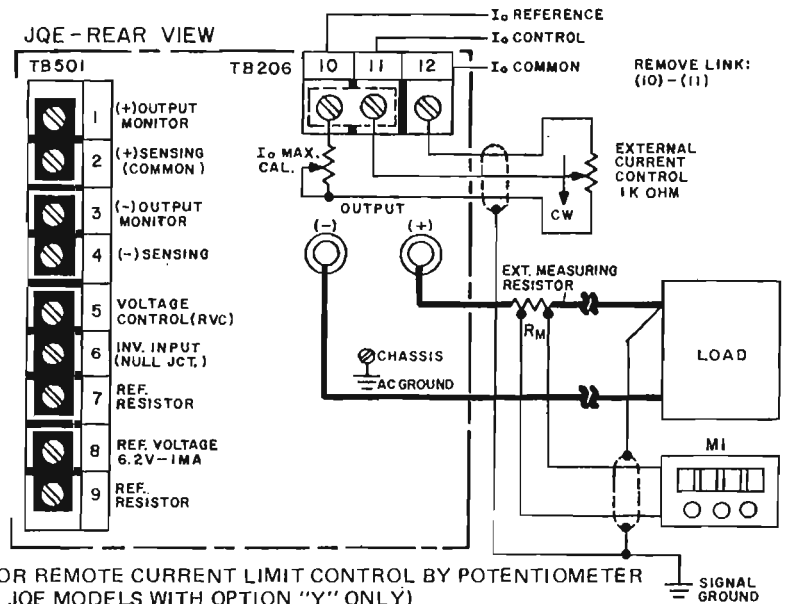

FIG. 3-16 CONNECTIONS FOR REMOTE CURRENT LIMIT CONTROL BY POTENTIOMETER (FOR JQE MODELS WITH OPTION "Y" ONLY)
**3-63 REMOTE CURRENT LIMIT CONTROL BY POTENTIOMETER.** A potentiometer, connected to the rear terminals of the JQE as shown in FIG. 3-16 will control the current limit over the full range of the JQE Power Supply. The potentiometer should be a 1000 ohm, high quality, multiturn, wirewound unit for good resolution and high stability. Sufficient reference current is provided, so that the maximum output current value can be calibrated by inserting a series trim rheostat. The zero point is adjusted by the internally provided  $I_0$  ZERO control.
- 1) Connect the potentiometer, in series with the calibrating rheostat, to the terminals of the JQE as shown in FIG. 3-16. DO NOT REMOVE THE JUMPER LINK (10)-(11) ON TB201 AT THIS TIME.
- 2) Connect shield (single ended) to the selected signal ground. Connect external ammeter, or precision voltmeter across a meter shunt (as shown in FIG. 3-16), in series with the load.
- 4) NOW, disconnect, the jumper link (10)-(11) on TB201. Turn a-c power "on." Vary the external control potentiometer between its limits, while monitoring the output current of the JQE Power Supply as shown on M1 in FIG. 3-16, or by means of a suitable ammeter in series with the load.
- 1) Connect an accurate ammeter, or a measuring resistor ( $R_M$  in FIG. 3-16) and a digital voltmeter in series with the load. NOTE:  $R_M$  is selected according to the available meter. A linear readout can be achieved by selecting  $R_M$  to drop 0.1 volt at the maximum output current, for example. (Use 4-terminal meter shunt for  $R_M$ .)
- 2) Turn a-c power "on," and adjust the external CURRENT CONTROL potentiometer to its maximum *clockwise* position. NOTE: Refer to FIG 3-16. The *maximum clockwise* position should establish *maximum resistance* between terminals (11)–(12) on TB201. Check the output current on M1 and correct to "IO MAX." using the external "IO MAX CAL" control. (The value of the "IO MAX CAL" control should be approximately 15% of the value for the EXTERNAL CURRENT control.)